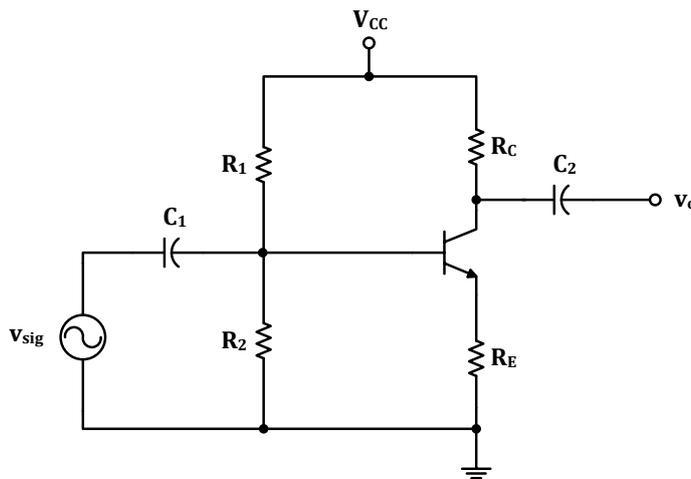
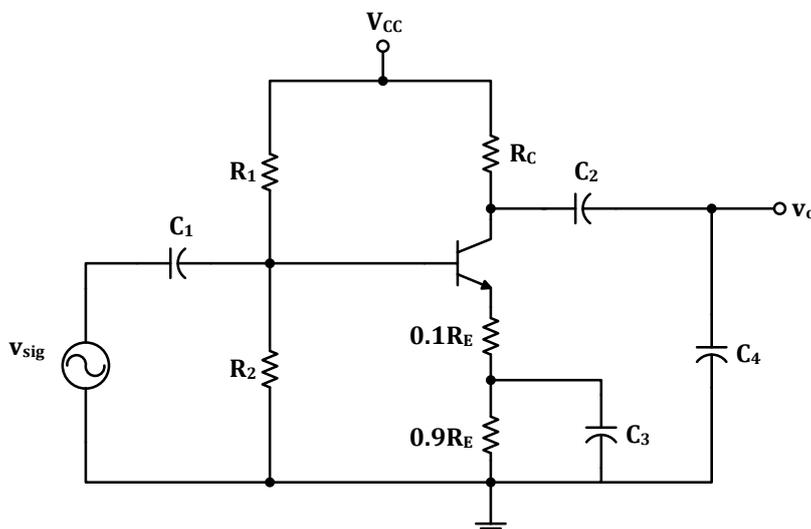

Figure E2.2
Figure E2.3
1. Wire up the capacitors to your circuit in Part B as shown in Figure E2.2. The capacitors' values will be assigned to you based on the listed values in Table 2.1.
5. Modify the circuit in Figure E2.2 by adding C_3 as shown in Figure E2.3. Repeat steps 3-4.